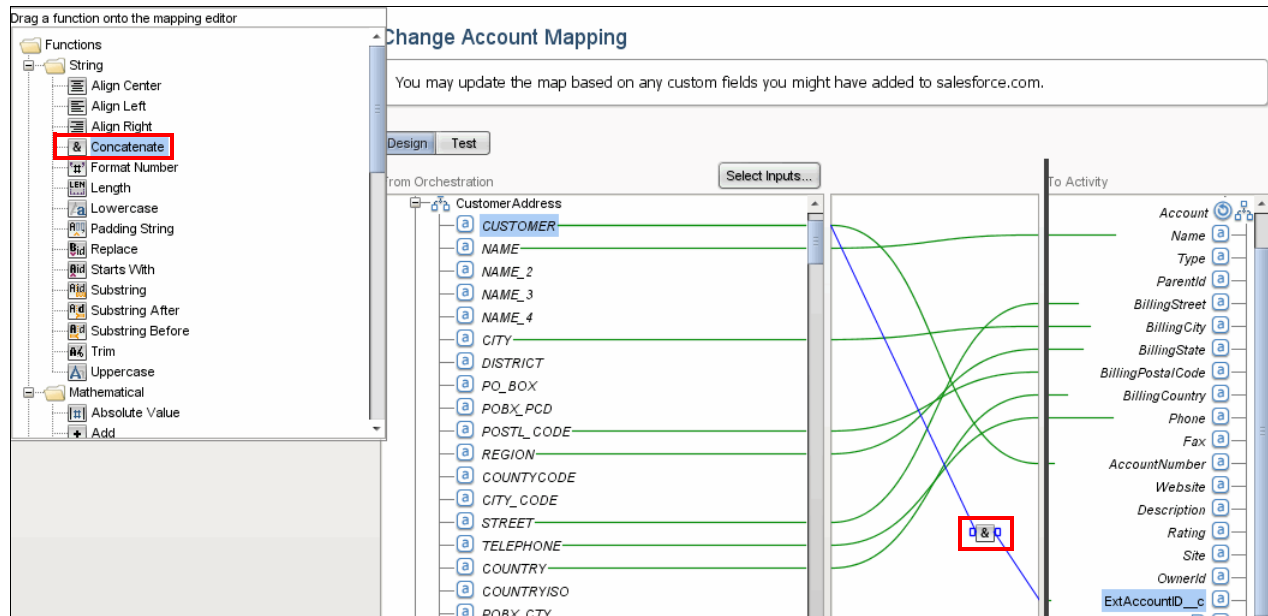

Figure 10-21 TIP wizard enhance mapping for ExtAccountID
- Grab the **Concatenate** function, and drop it on the link between CUSTOMER and ExtAccountID\_\_c, as shown in Figure 10-21. Double-click the created Concatenate (&) symbol to open the concatenate function.